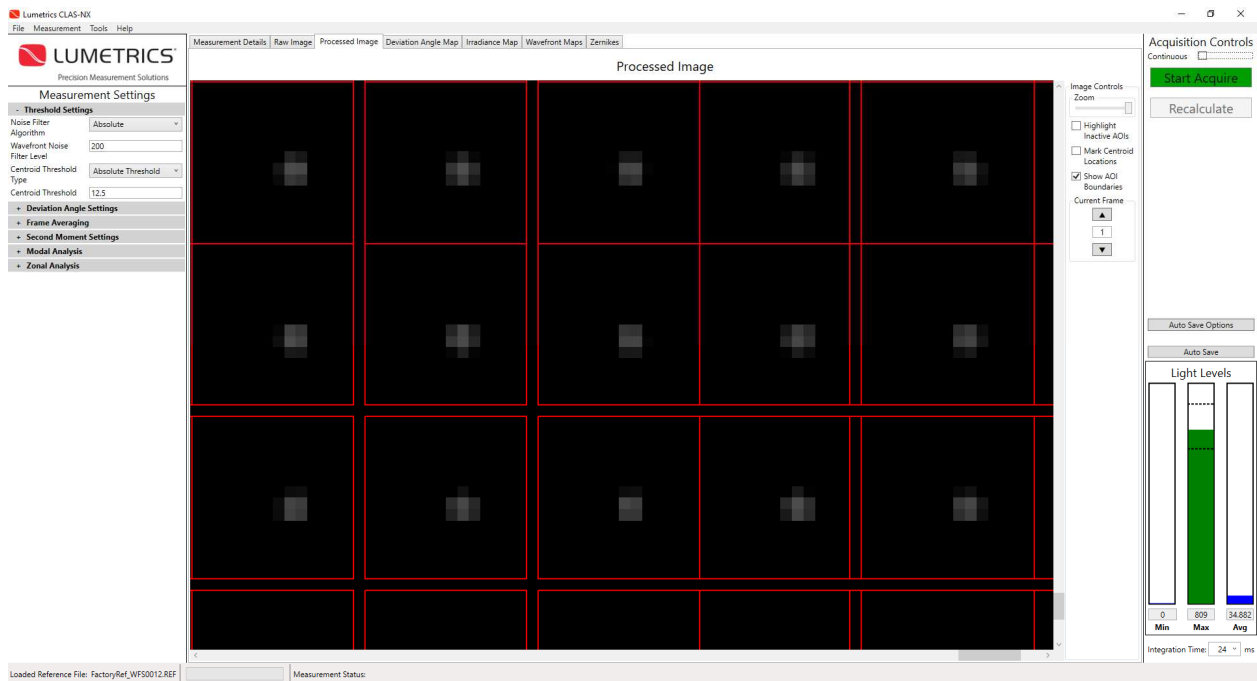

Figure 40: Lower right corner pixels
In the processed image tab, dragging the scrollbars to the lower right displays the lower right AOI's, as seen in Figure 40. Again, there are about 6 to 16 white and gray pixels relatively well centered in their red AOI boxes. Once your setup has similar results to Figures 40 and 41 your system is roughly square and roughly collimated. You can now use the analysis data from the wavefront sensor as feedback to achieve fine alignment.
3. Open the processed image, zoom in to confirm only one spot is in each red box, like Figure 40